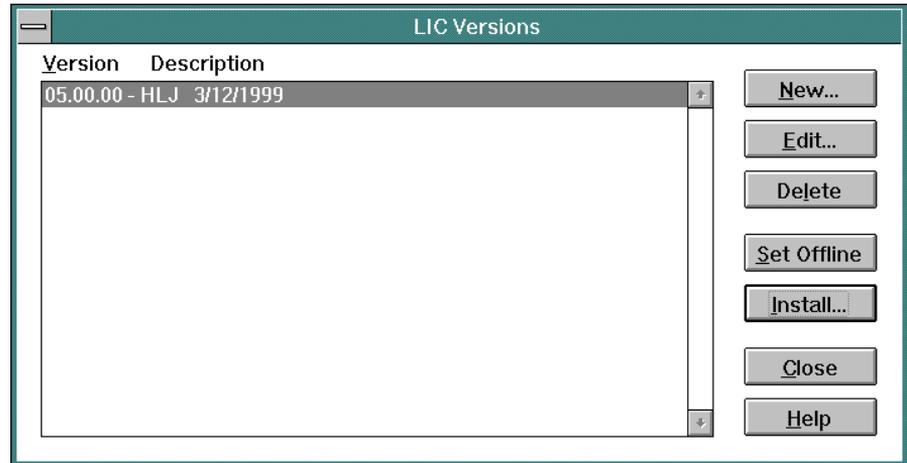

Figure 167. Completed LIC Versions Dialog Box
9. Type a LIC description (up to 24 alphanumeric characters). The description should contain the name or initials of the installer and the date of installation. When complete, click the *OK* button. The *LIC Versions* dialog box reappears (Figure 167) with the new LIC version entered.